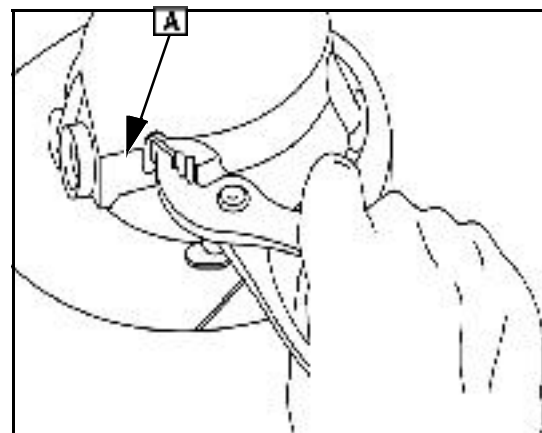

Fig. 28
2. Grasp outer end of rewind spring (A) Fig. 28) with pliers. Pull out of housing as far as possible.